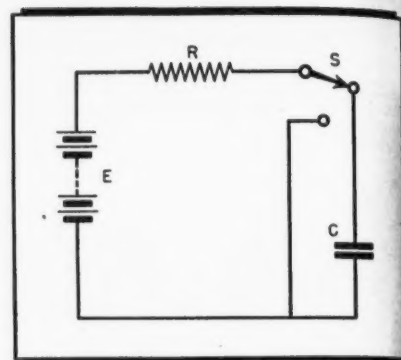

Figure 3
- The simple time base is illustrated in Fig. 3. The voltage source E charges the condenser through resistance R in accordance with the formula $V_c = E(1 - e^{-t/CR})$, where V_c is the voltage across the condenser at any